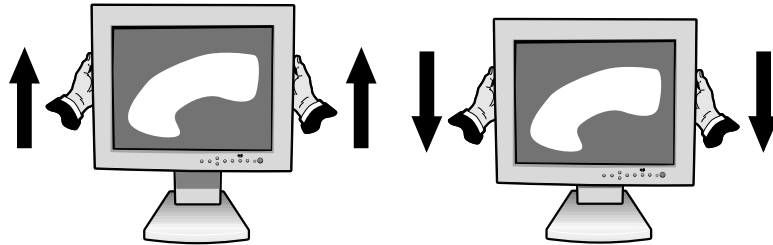

Figure RL.1
The monitor may be raised or lowered in either Portrait or Landscape mode. To raise or lower screen, place hands on each side of the monitor and lift or lower to the desired height (Figure RL.1).
Before rotating, the screen must be raised to the highest level to avoid knocking the screen on the desk or pinching your fingers. To raise the screen, place hands on each side of the monitor and lift up to the highest position (Figure RL.1).
2. Place hands on each side of the monitor and lift up to the highest position (Figure RL.1).